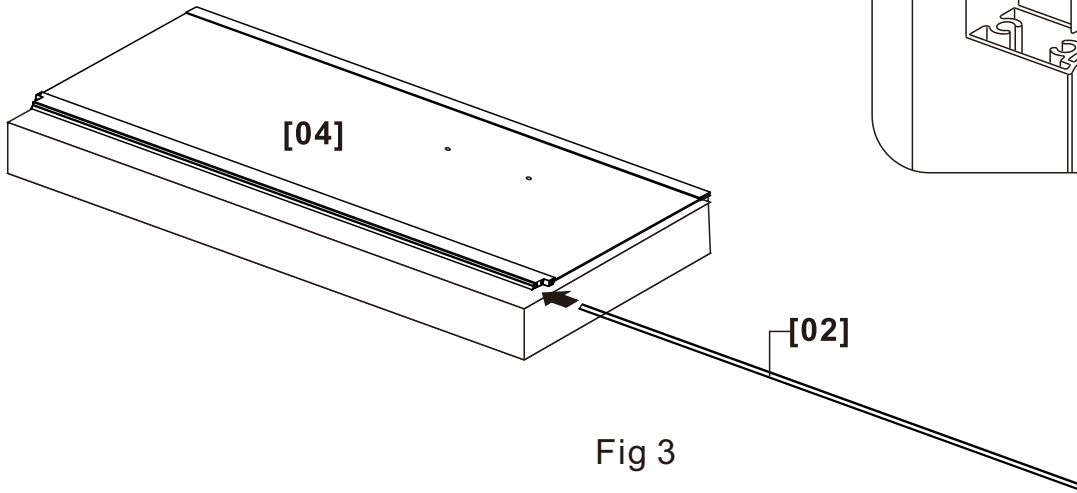

Fig 3
1. Slide the **Side Water Sealing Strip [02]** to the groove of **Fixed Panel [04]**. (Fig 3)